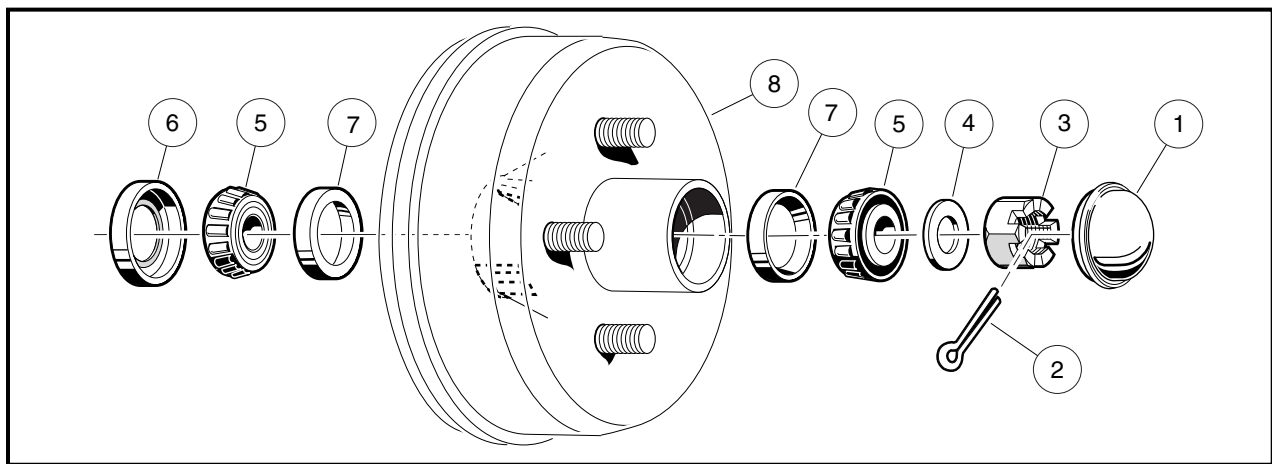

Figure 7-30 Front Wheel Bearings and Hub
3. Rock the wheel and hub assembly back and forth on the spindle. If there is any observable movement of the wheel and hub on the spindle, remove dust cap (1) and cotter pin (2) and then tighten the spindle nut (3) until both bearings (5) fully seat in the bearing cups (7) (**Figure 7-30, Page 7-19**).
5. Install a new cotter pin (2). If movement continues, replace the wheel bearings (5) as required.